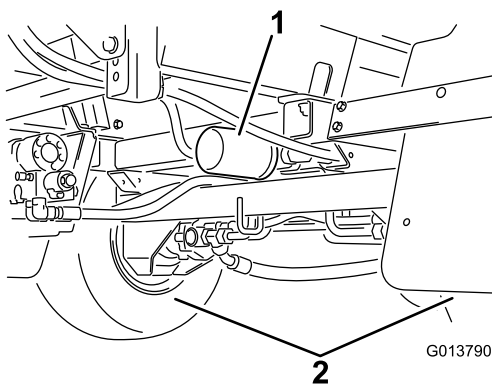

Figure 142
2. Locate the 2 hydraulic filters on the machine (Figure 141 and Figure 142).